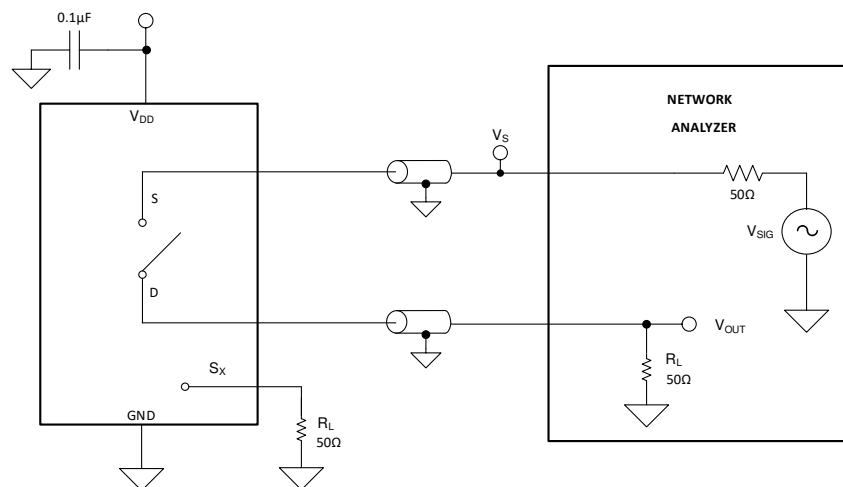

图 25. Off Isolation Measurement Setup
Off isolation is defined as the ratio of the signal at the drain pin (D) of the device when a signal is applied to the source pin (Sx) of an off-channel. 图 25 shows the setup used to measure, and the equation used to calculate off isolation.